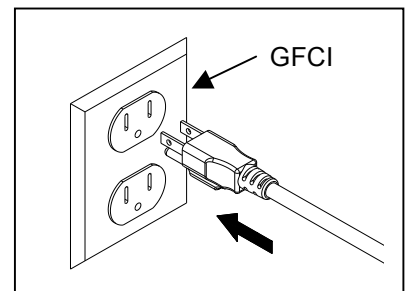

Fig. 3
3. Place the pump into the water and connect to a proper power source. Fig. 3